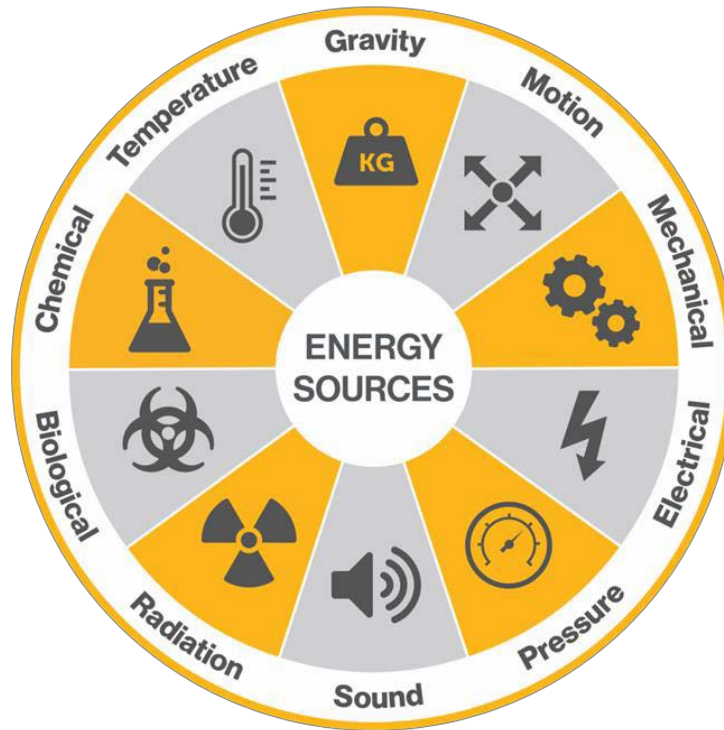

Figure 3: Energy Based Hazard Recognition Graphic
- See Figure 3: Energy Based Hazard Recognition Graphic.